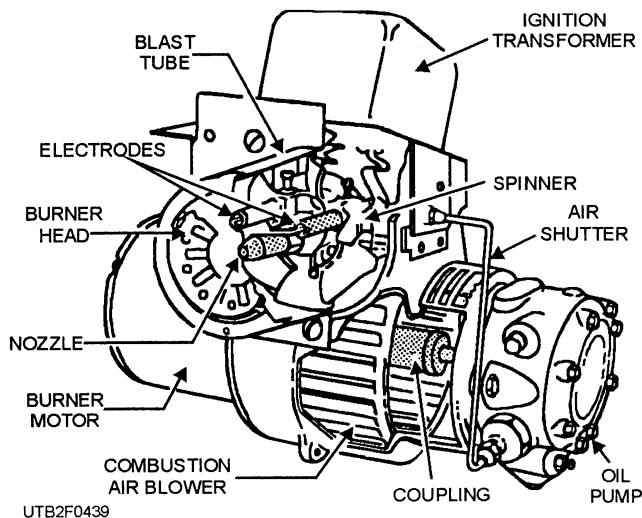

Figure 4-39.—High-pressure gun type of oil burner.
burners atomize the oil by fuel-oil pressure. The fuel-oil system of a pressure-atomizing burner consists of a strainer, pump, pressure-regulating valve, shutoff valve, and atomizing nozzle (fig. 4-39). The nozzle and electrode assembly includes the oil pipe, nozzle holder, nozzle, strainer, electrode insulators, electrodes, supporting clamp for all parts, and static disk. The oil pipe is a steel rod with a fine hole drilled through it. This hole reduces oil storage in the nozzle to a minimum that prevents squirting at the nozzle when the burner shuts off.
**Ignition Electrodes.**—The heat of a spark jumping between two ignition electrodes ignites the fuel (fig. 4-39). The voltage necessary to cause the spark to jump is much more than the line voltage available. Therefore, an electric transformer is used to step up the line voltage to approximately 10,000 volts.